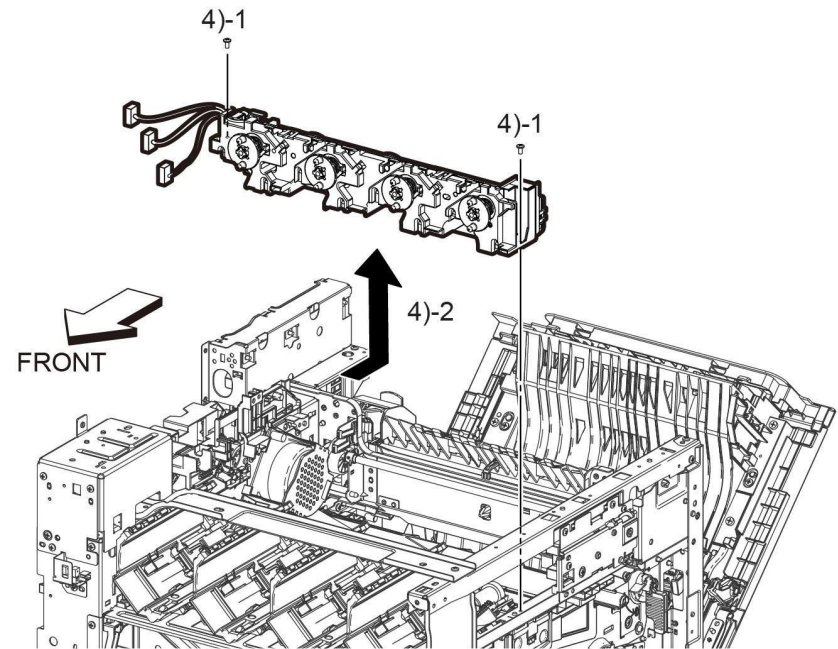

Figure 3 Remove the Dispenser Drive Assembly
4. Refer to Figure 3 to remove the two screws (silver, M3x6mm) attaching the Dispenser Drive Assembly and remove the drive.